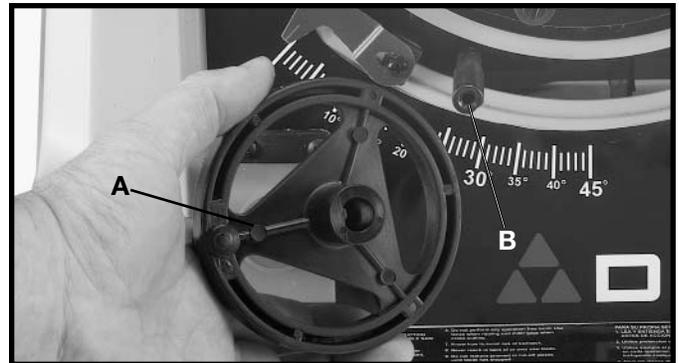

Fig. 7
3. Assemble handwheel (A) Fig. 7, to shaft (B) making sure the flat on inside of handwheel lines up with flat on shaft.
4. Fasten handwheel (A) Fig. 8, to shaft (B) Fig. 7, using a M6 x 12mm flat head screw (C) Fig. 8.